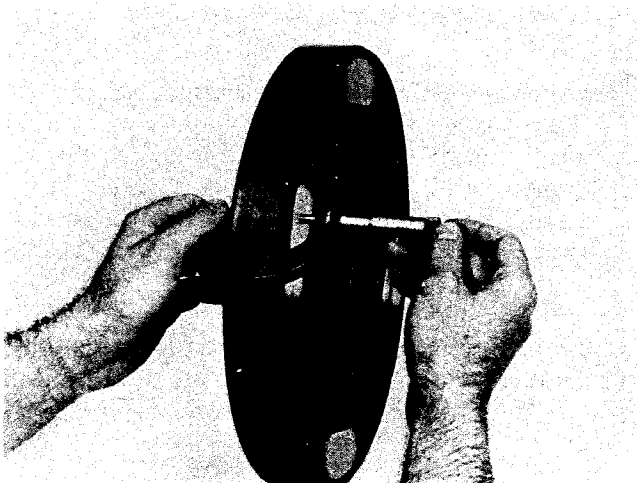

Fig. 1-10, (N10117). Measuring damper
at each of the four (4) equally spaced areas approximately 0.125 inch [3.18 mm] from the outside edge of the front cover plate as shown in Fig. 1-10.
5. Replace the damper if the variation in the four (4) thickness dimensions exceeds 0.010 inch [0.25 mm].